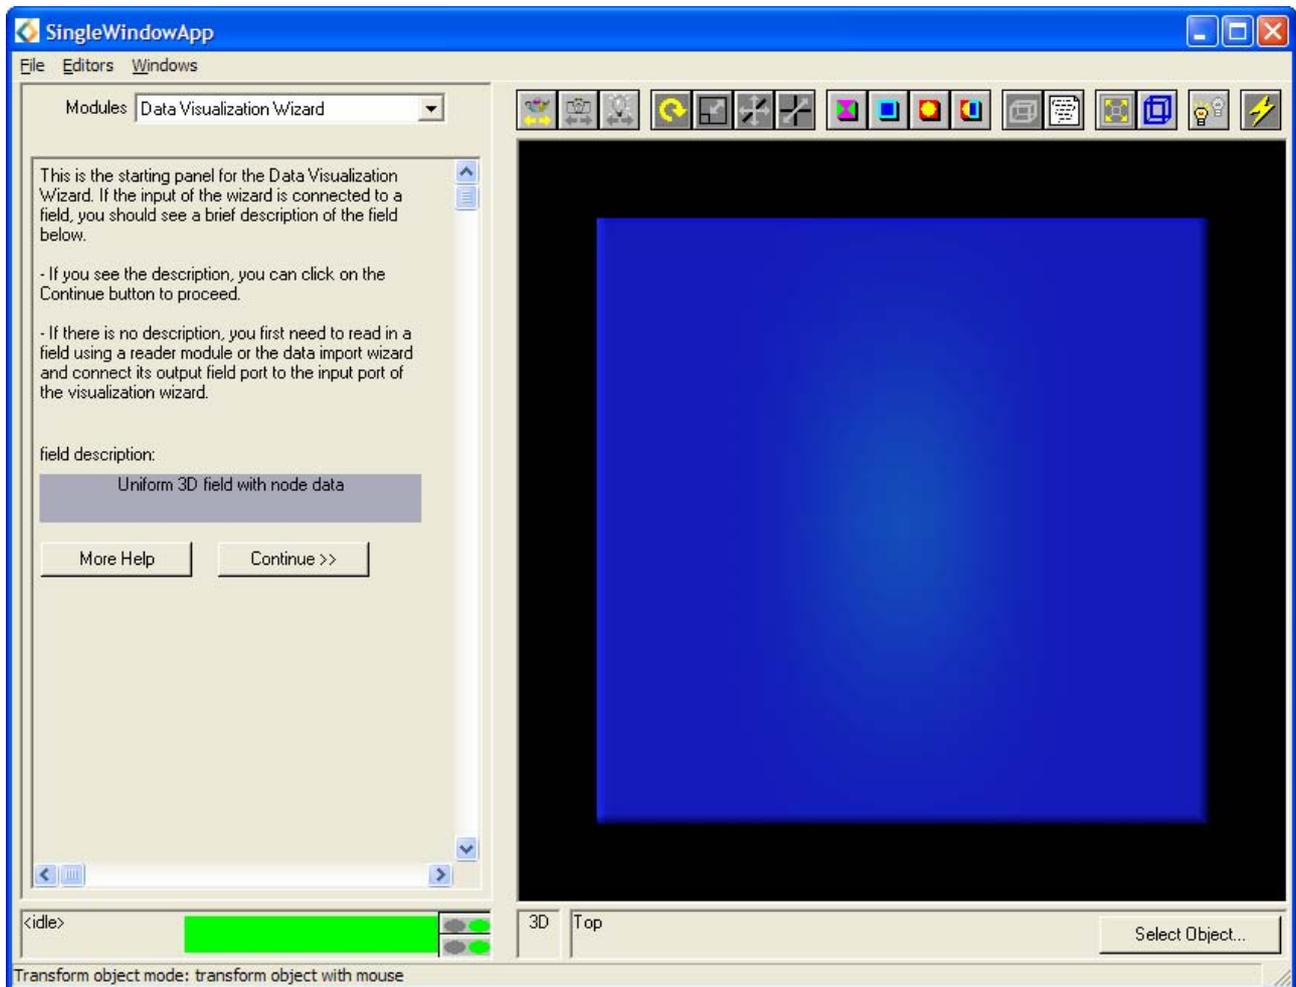

Figure C.12: Data Visualization Wizard Editor Panel
- Select Data Visualization Wizard from the **Modules** drop down list, its Editor Panel will be displayed as in Figure C.12.